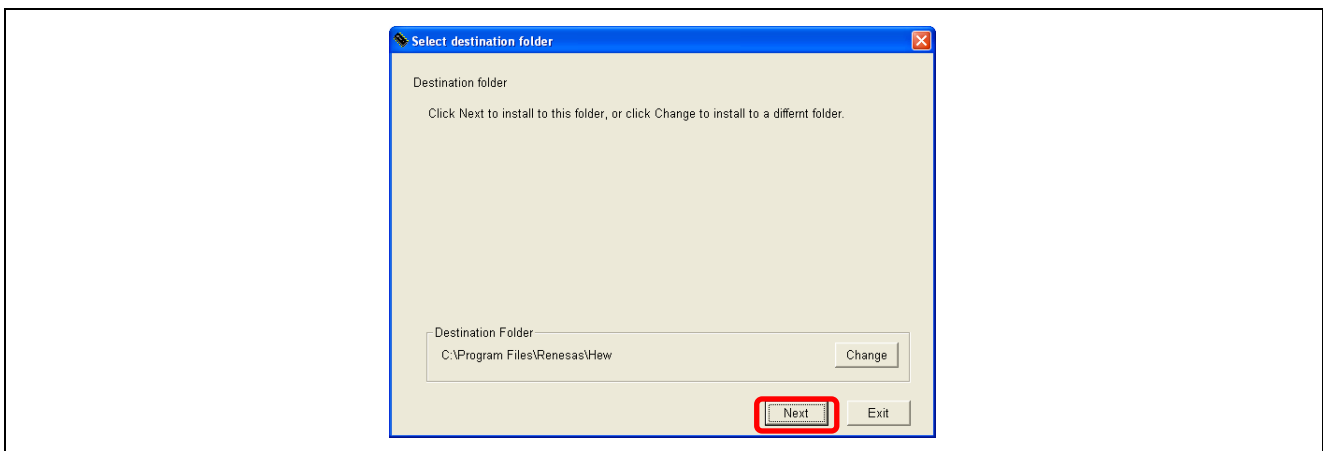

Figure 3.3 [Select destination folder]
- (4) The [Select destination folder] dialog box appears (Figure 3.3). To change the destination folder, click on the [Change] button. Check the folder name and click on the [Next] button. The default destination folder is used in this guide.